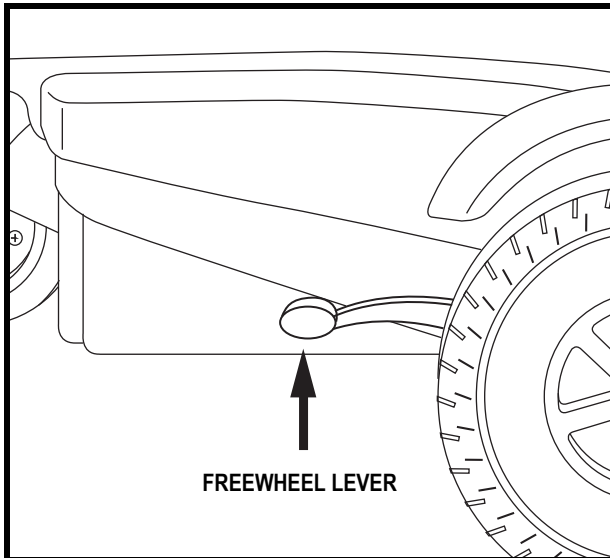

Figure 8. Drive Mode (Drive Engaged)
2. Pull both levers upward to engage the drive motors (drive mode). See figure 8.
2. Ensure the power chair is in drive mode. See figure 8.